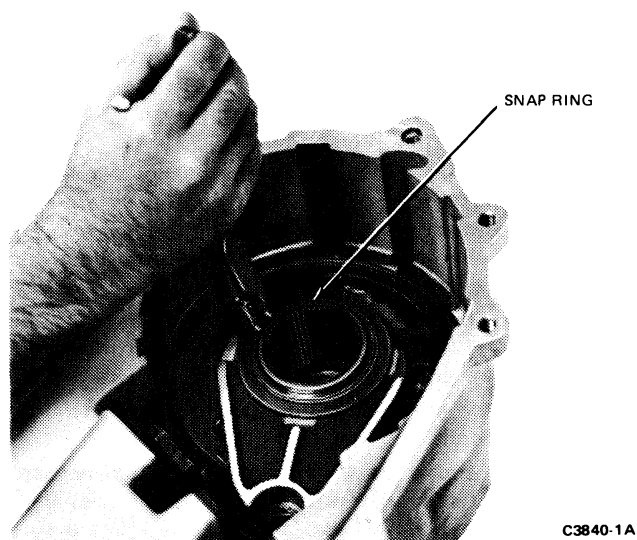

FIG. 14 Removing Planetary Gear Set Snap Ring
14. Remove the snap ring and thrust washer from the planetary gear set assembly in the front case half (Fig. 14).